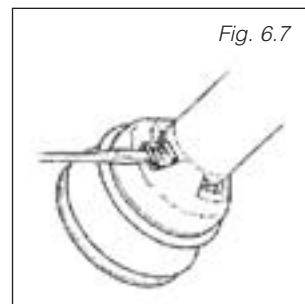

Fig. 6.7
1. Remove the EASY LOCK grease nipple with a screwdriver (Fig. 6.7.). Remove or hold back the chain (as it may block the bearing).